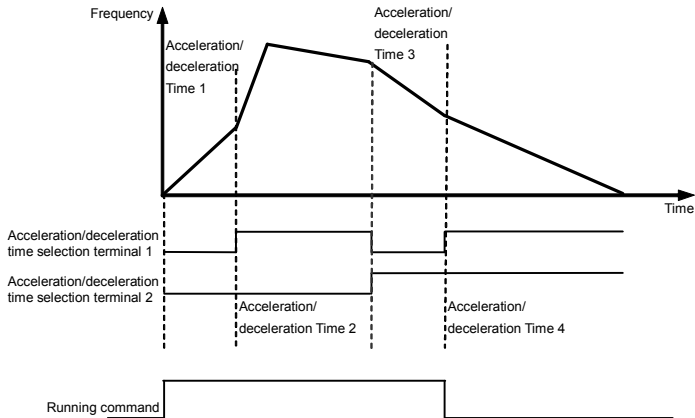

Figure 7-24 External terminal selection mode for acceleration and deceleration time
①. In Figure 7-24, the acceleration starting/deceleration ending period of **S** curve is indicated by the percentage of the total acceleration and deceleration time.
②. In Figure 7-24, the acceleration rising/deceleration decreasing period of **S** curve is indicated by the percentage of the total acceleration and deceleration time.